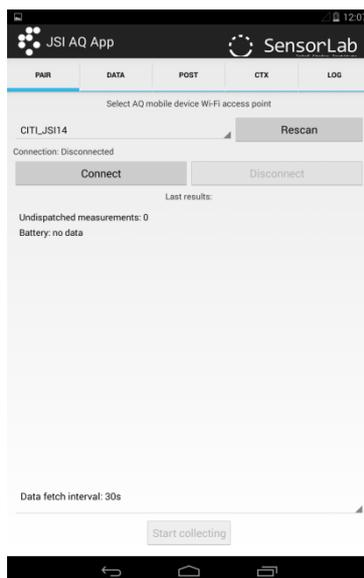
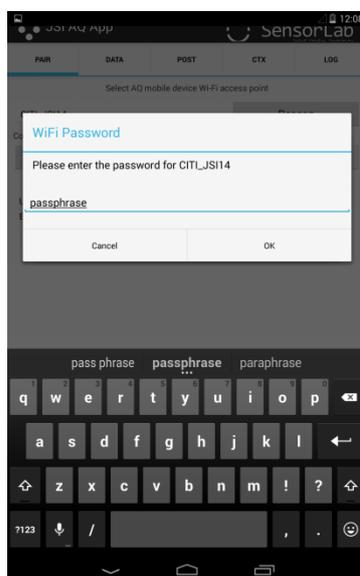

Figure 5: JSI AQ App start screen.
Figure 6: Entering Wi-Fi password.
When running the app for the first time, you will see the screen as shown in Figure 5.
1. If the VESNA AQ device is turned on and within the range, the mobile app will automatically detect it (e.g. CITI_JS114 in Figure 5). All you need to do is to click the connect button. When connecting a given device for the first time, it will ask for the access point password, which is by default for all VESNA AQ units set to *passphrase* (unless you are instructed otherwise). This step is shown in Figure 6.